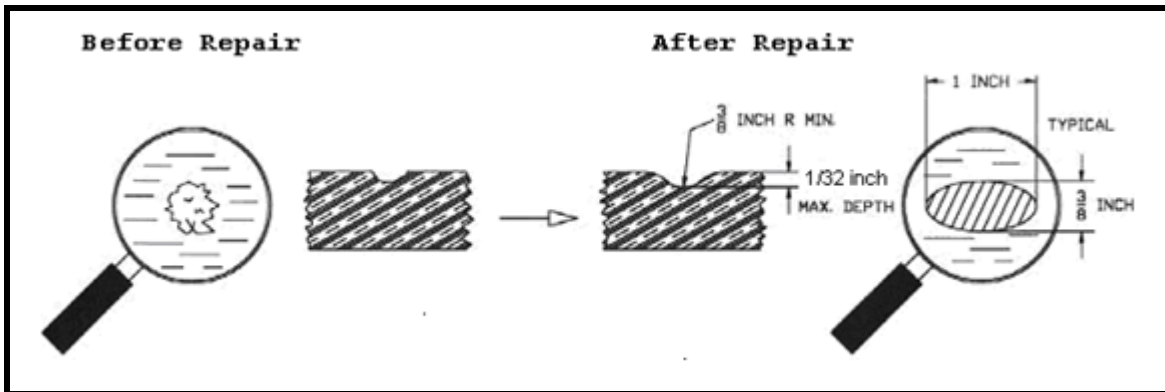

FIGURE 9: Minor Hub Repair Limits
Any hub or spacer that would exceed what is depicted below in **Figure 9** below for minor repair must be retired from service. These dimensions (other than radius) are maximum allowable. Anything less is acceptable. Radius can be greater. A hub can be returned to service with the following limitations:
1. Sand the area with 220 wet-or-dry abrasive paper until all evidence of damage or corrosion is removed. A small motorized grinding tool may be used. The repaired area must not exceed the limits shown in **Figure 9**.